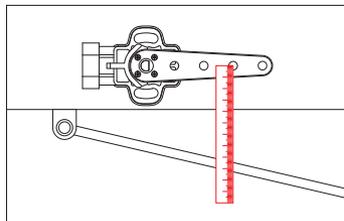

Abb. 26: Sensor arm length
1. Using a gear jack, move the suspension to the center position of the entire travel range and the sensor arm to the center position of the working range. Now measure the distance [D] between the selected mounting hole and the mounting point of the coupling rod (Fig. 26).